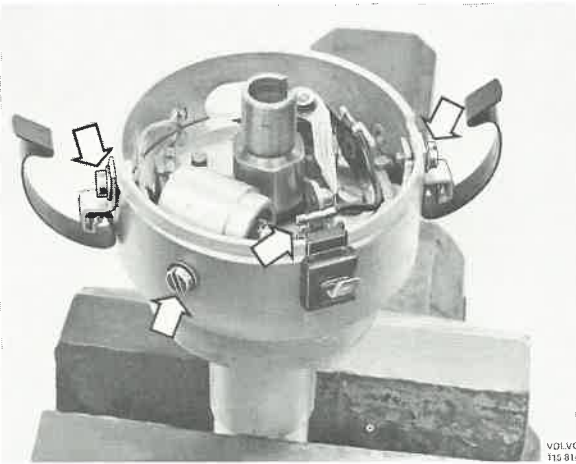

Fig. 34-10. Removing low-voltage terminal
2. Unclasp the lock clasps from the cap. Disconnect the cable from the breaker contacts and remove the condenser with its low-voltage terminal, see Fig. 34-10.